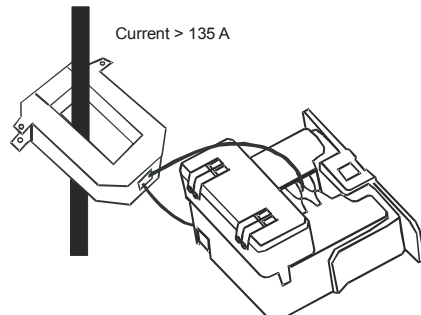

Figure 4: CSC with CT Transformer
Use a 5 A Current Transformer (CT) to reduce the current passing through the CSC (see Figure 4). Run the current transformer secondary wire through the sensing hole. Terminate the two secondary wires of the 5 A current transformer to each other, and then install the 5 A current transformer on the monitored conductor.